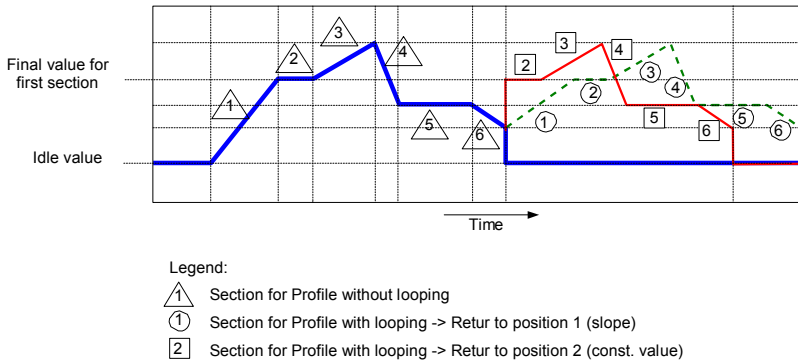

Fig. 7.101. Sample of Profile/timer with description of parameters
- if the section from which begins the next repeat Profile/timer is a ramp, then in the whole duration of this section is linear generating the output signal from the final value of the previous section to final value this section. This is shown in Fig. 7.101 (dashed line-run profile)
- if the section from which the next repeat of the Profile/timer begins is a constant value, then Profile signal quickly transient (0.1 seconds) from the final value of the previous section to a constant value in this section. This is shown in Fig. 7.101 (profile guided fine line).